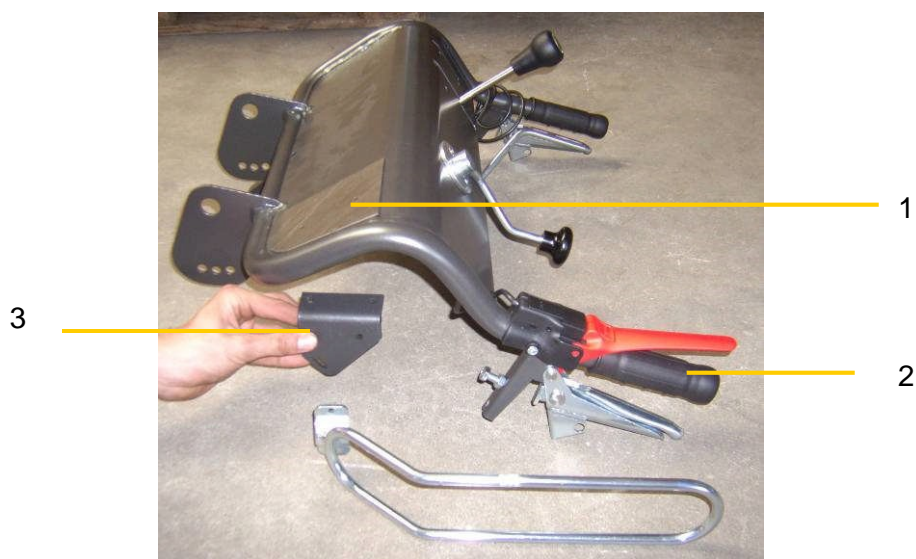

Figure 8.2
The installation of the handguard is described in more detail below and illustrated in Figure 8.2.
1. To install the left-hand guard, place the supplied drilling template (Fig. 8.2, item 1) on the hand spar (Fig. 8.2, item 2) and drill two 6.5 mm holes.
2. Screw on the left mounting bracket (Fig. 8.2, Pos. 3) with 2 M 6 x 20 screws, 2 body washers and 2 lock nuts.